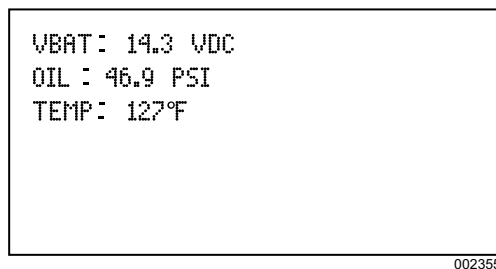

Figure 2-12. Engine Screen
- See Figure 2-12. The Engine screen displays battery voltage, oil pressure, coolant temperature and fuel level.